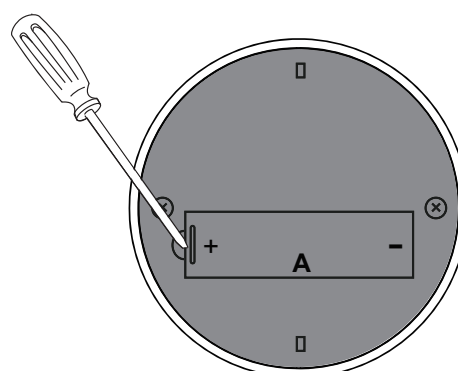

FIG. 2
4. Center, mark and fasten ceiling bracket onto ceiling using (4) M4*38 screws and (4) washers. Make sure the word "FRONT" displayed on the ceiling bracket is facing the front of the hood where the controls will be located. FIG. 2.
5. Attach telescopic rod couplers to marked locations on ceiling using (1) #6*2" wood screw for each coupler. Make sure the set screw mounting hole is toward the bottom of the coupler during mounting. FIG. 2.
Using a small flat head screwdriver, raise the cover of the battery door (A) in order to access the battery compartment. FIG. 2.